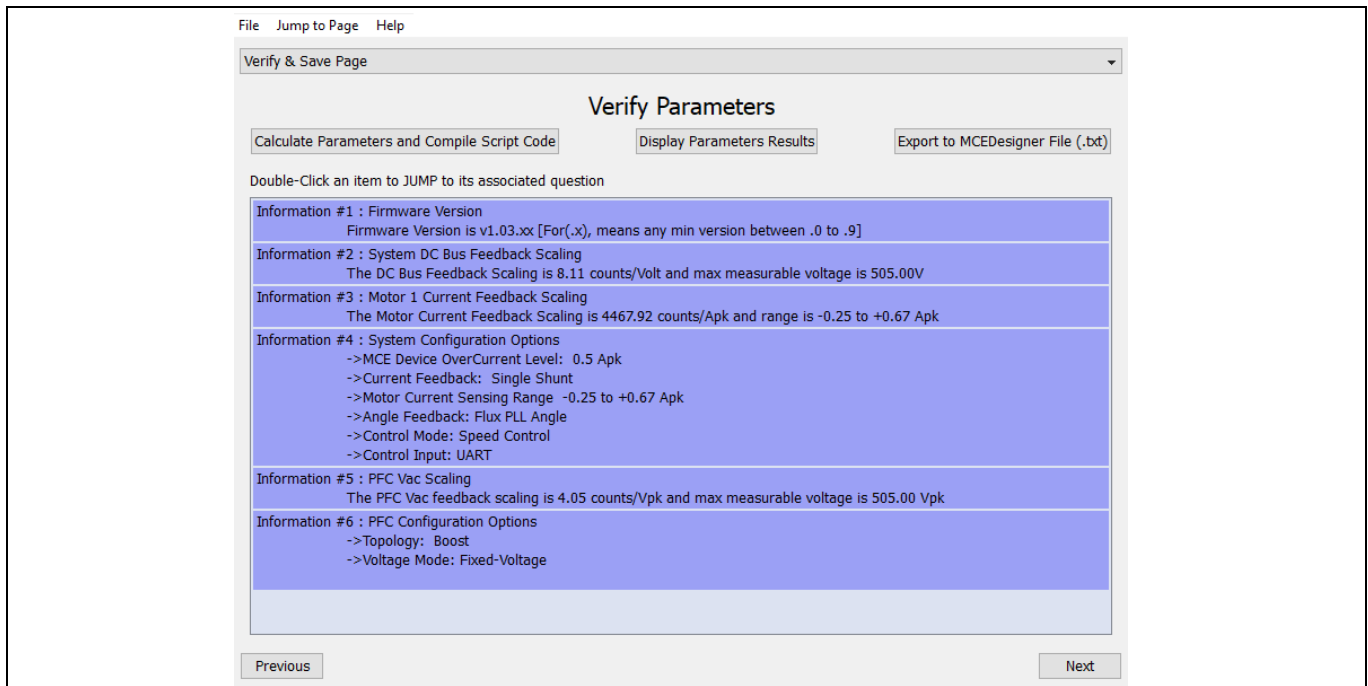

Figure 9 MCEWizard verify and save page (script-enabled)
2. After the target motor’s system parameters are set, go to the “Verify & Save Page” and click on the “Calculate Parameters and Compile Script Code” key to enable the script function; click on “Calculate Parameters” key to disable script function. If no errors are reported, then save the drive parameters set in your project directory by clicking “Export to Designer file (.txt)” as shown in Figure 9. If errors are detected, double-click on the error message (highlighted in RED) and adjust the related parameters. The saved drive system parameter file will later be used for programmers.